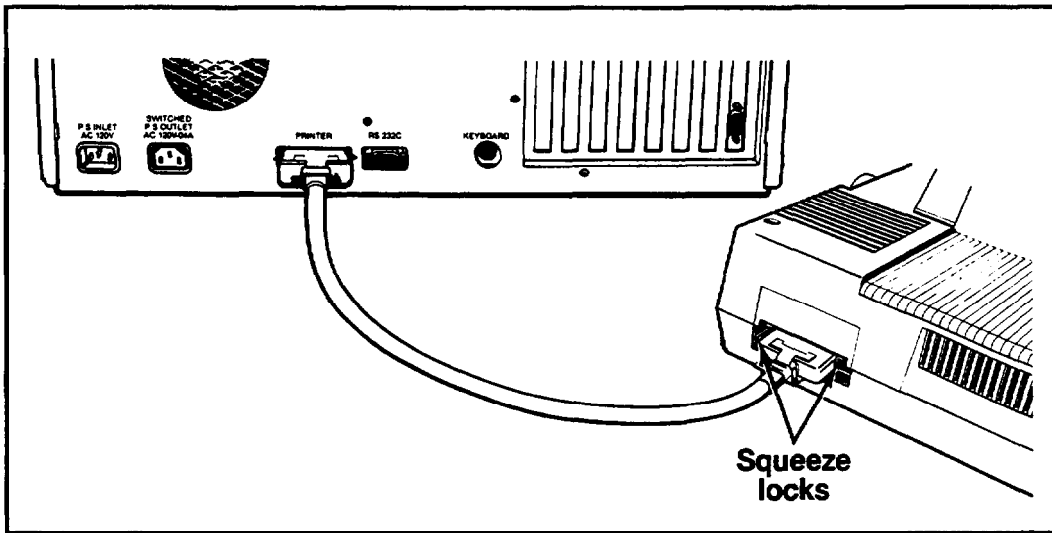

Figure 1-9. Connecting the printer
4. Connect the other end of the cable to the printer. To secure the cable, tighten the squeeze locks at each side of the printer port and push them into the connectors on each side of the cable. Figure 1-9 shows how to connect the cable to the printer.